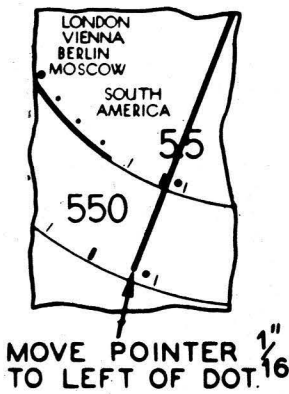

Fig. 5—Dial Calibration Model 38-22
**EQUIPMENT REQUIRED:** (1) Signal Generator, using a fundamental frequency covering the intermediate frequency and tuning ranges of the receivers. Philco Model 077 Signal Generator which has a fundamental frequency range from 115 to 36000 K. C. is the correct instrument for this purpose; (2) Output meter, Philco Model 026 circuit tester incorporates a sensitive output meter and is recommended; (3) Philco Fibre Handle Screw Driver, part No. 27-7059 and Fibre Wrench Part No. 3164; (4) Philco Set Transformer, Part No. 32-2763.
2. Now turn the selector knob (clockwise) until the dial pointer moves  $\frac{1}{16}$  of an inch from the small black dot (clockwise). See Fig. 5. Leave pointer in this position and loosen coupling set screws.